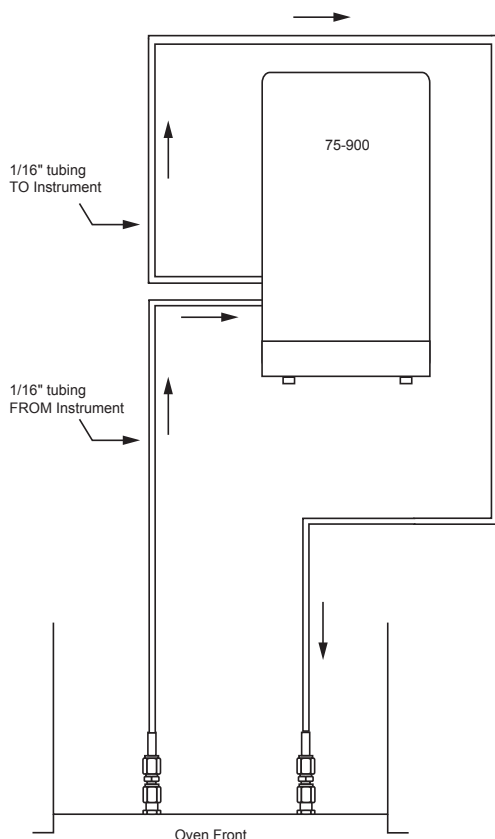

Figure 4:
A. Instrument with Pre-column (Series 5900 DID GC Systems 2, 3, 4, 5, & 9). Refer to Figure 4.